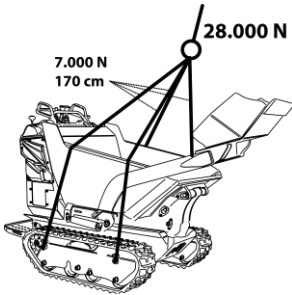

fig. 44 – Anchor points for lifting.
- Fasten the lifting means only to the anchor points provided by the manufacturer (fig. 44);